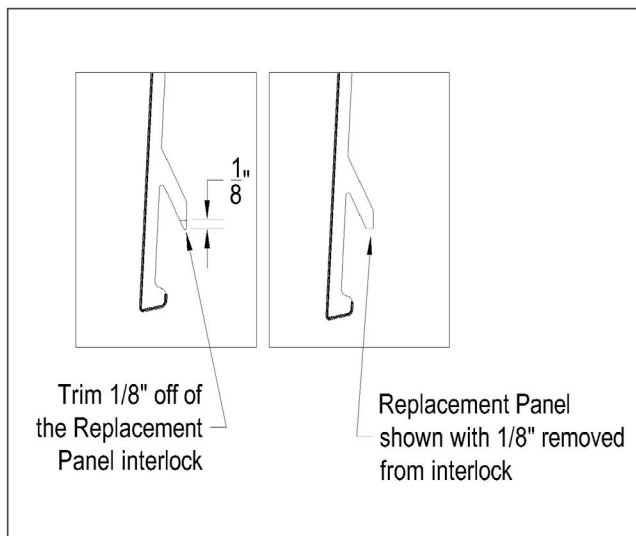

Figure 11
- Trim 1/8" off the inter-lock of the replacement plank (Figure 11).